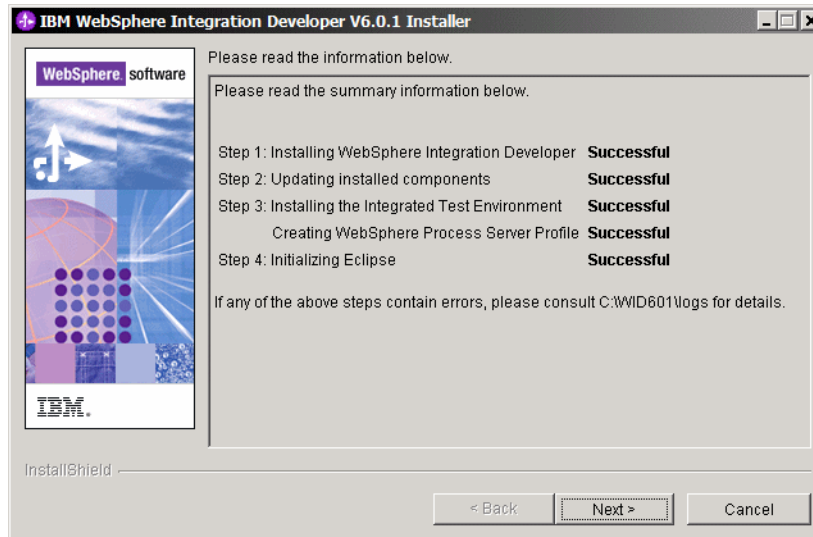

Figure A-5 Installation successful confirmation
- ▶ When the installation is finished you receive a confirmation (Figure A-5). Click *Next*.